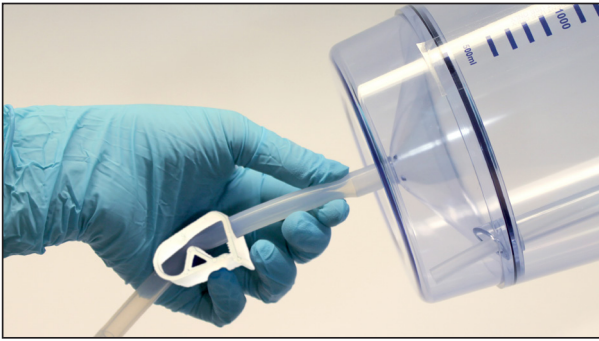

Figure 1. Attach fat evacuation tubing.
6. Attach fat evacuation tube (A) to bottom of LipoFilter (fig 1). If the Five-Way Connector (H) is not attached to the fat evacuation tubing, attach the connector by pushing either end securely into the bottom of the fat evacuation tubing.